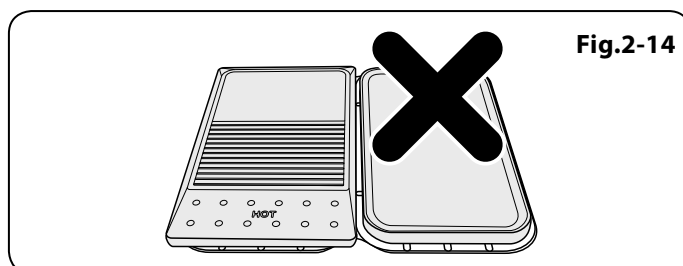

Fig.2-14
- ⚠ **NEVER fit two griddles side by side (Fig 2-14).**